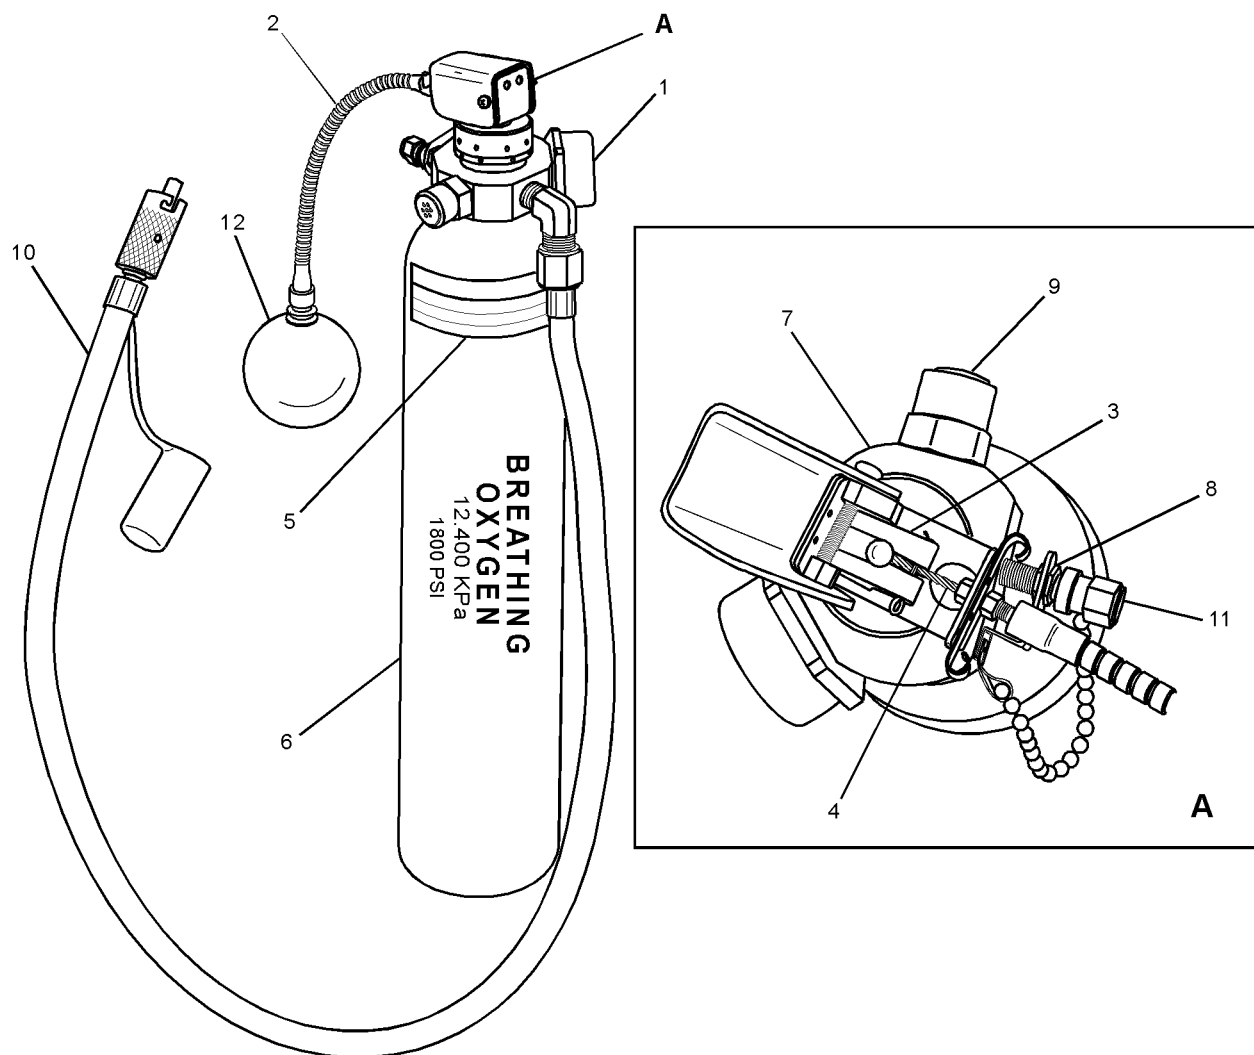

Figure 8A-4. E-2C Emergency Oxygen System Configuration
**8A-29. Visual Inspection.** Perform a Visual Inspection of the E-2C Emergency Oxygen Supply in accordance with table 8A-2 and record the results on the Performance Test Sheet (figure 8A-3).